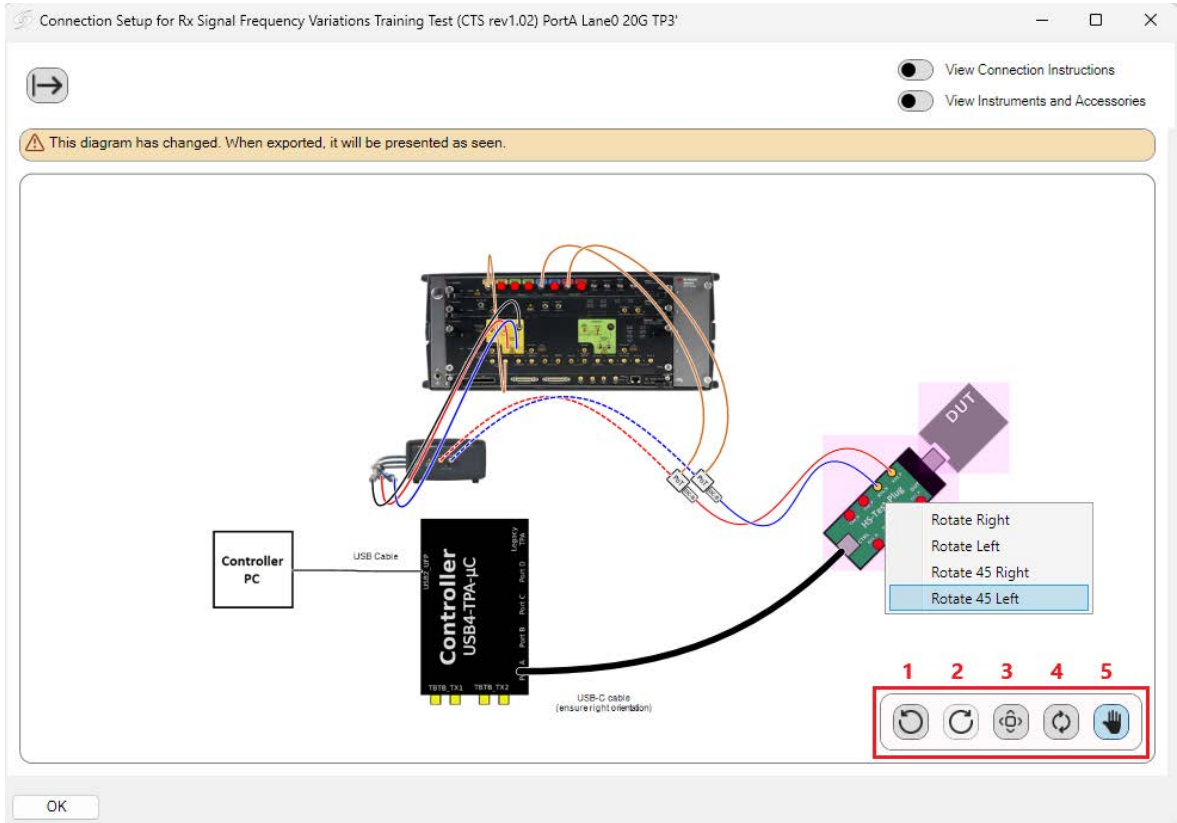

Figure 29 Connection diagram dialog – Export Mode view
- 4 **Export Mode:** Click here to change the layout of the connection diagram before exporting it (Figure 29).
In the Export Mode view (Figure 29) you can change the layout of the connection diagram before exporting it.
- To **rotate** an instrument: Double left click to select an instrument, then right click. Select the required rotation from the pop-up menu (see Figure 29).